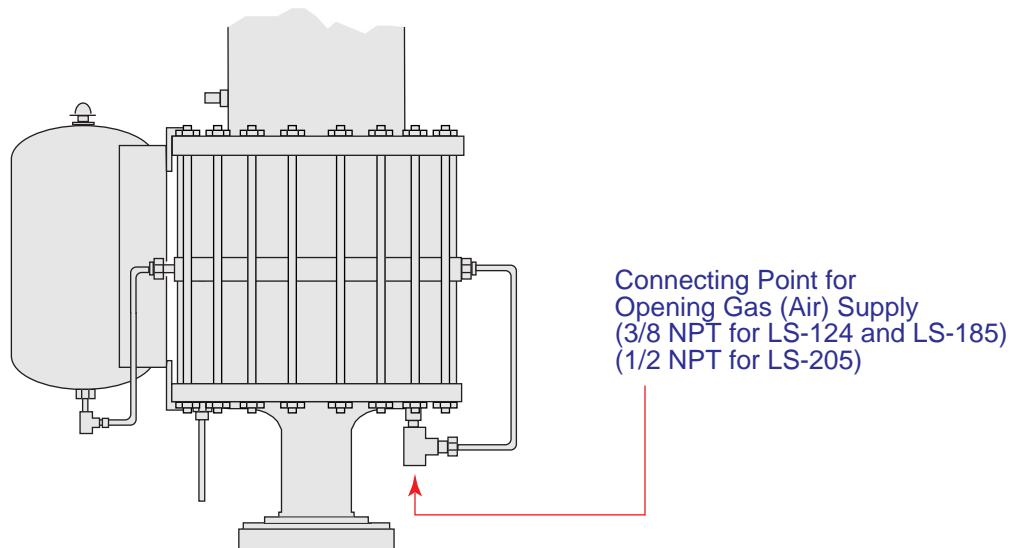

FIGURE 7
- Connect the opening gas (air) supply pressure line (3/8 NPT for LS-124 & LS-185; 1/2 NPT for LS-205 actuators). See Figure 7 for connection location.